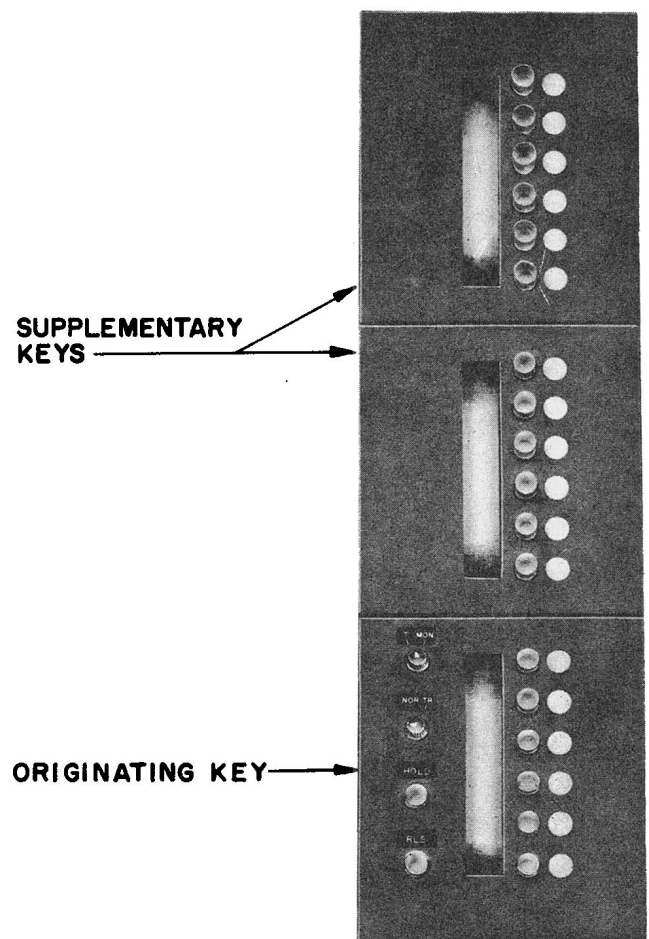
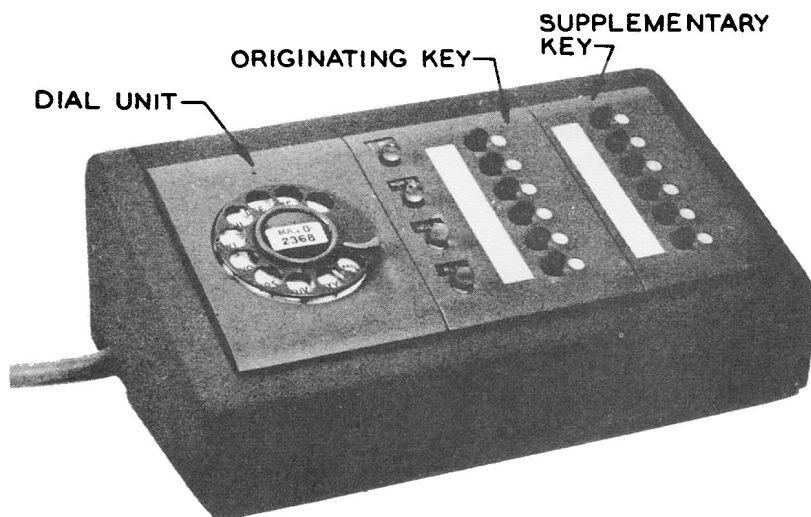

Fig. 1 — End-to-end Assembly, Flush Mounted
Fig. 2 — Side-by-side Assembly, Surface Mounted
2.03 Assemblies may be flush mounted either end to end or side by side in customer-owned consoles and tables (Fig. 1). They may be surface mounted side by side in apparatus cases (Fig. 2).